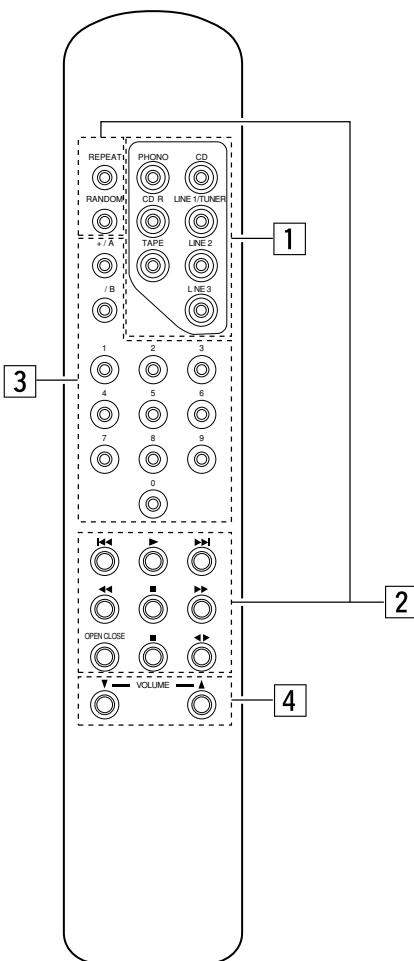

Figure 3
Button functions when the **TAPE 1** button (see **1** of the figure 3) is pressed:
Button functions when the **TAPE 2** button (see **1** of the figure 3) is pressed:
Button functions when the **CD** button (see ① of the figure 3) is pressed:
Button functions when the **LINE 1 (TUNER)** button (see ① of the figure 3) is pressed:
Button functions when the **LINE 2 (TV)** button (see ① of the figure 3) is pressed:
Button functions when the **LINE 3 (DVD)** button (see ① of the figure 3) is pressed: